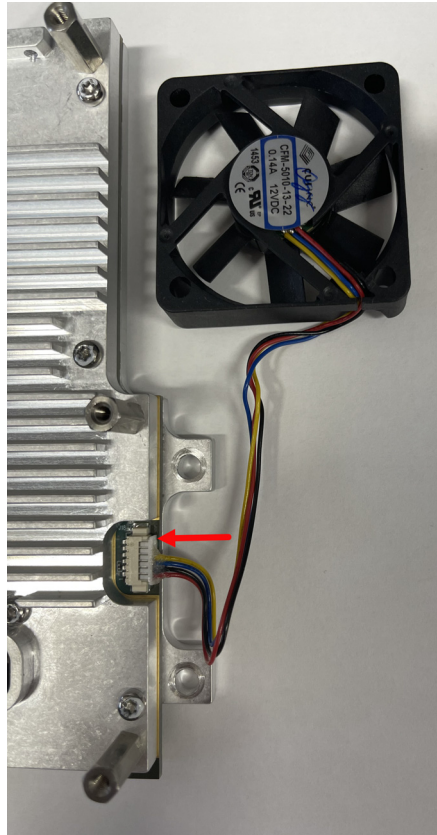

Figure 3-18. Fan Assembly Removal
1. Carefully disconnect the harness and lift the fan assembly out of the case. See Figure 3-18.
2. Make sure that the label of the fan assembly faces outwards while fitting it into the LCD top case assembly. See Figure 3-18.
3. Use caution as not to cripple the fan assembly harness in between while securing the Main PCB/SPA assembly onto the LCD Top case assembly. See Figure 3-18.